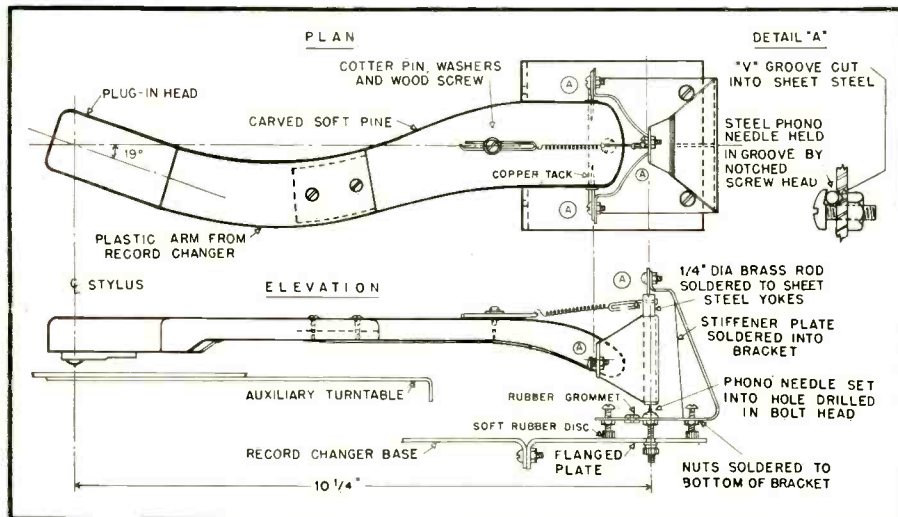
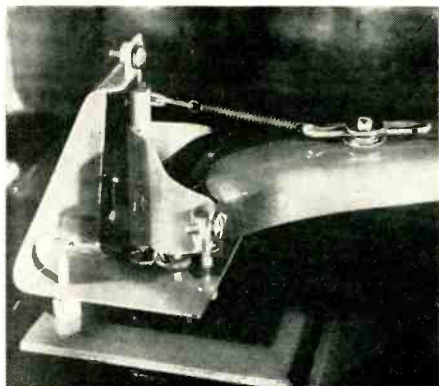

Fig. 4. Detail drawings show how the arm is made and pivoted.
Fig. 5. Photo shows details of the pivoting and the counterbalancing spring.
one or two electrostatic tweeters, as shown in Fig. 4 (B) and (C). Three of these tweeters are presently available: the Philco shown in Fig. 2; the "Kilosphere," made by Columbia Records; and the Kingdom-Lorenz SKL 100. The SKL 100 and the Korting are described in the literature.^{7,8} The author used a Western Electric 640A condenser microphone as a tweeter during the initial development of this amplifier-speaker system. This use of the 640A has also been described in the literature.⁹ The high frequencies from the 640A, while very clean, were too sharply beamed; the Philco unit, constructed as a section of a cylinder, diffuses the highs very nicely, especially when used in pairs with one unit on each side of the woofer.
In order to prevent tearing of the foil, its movement must be restricted, and this means that the electrostatic speaker should be fed only signals above 4 to 5 kc. The R-C coupling networks shown in Fig. 4 provide a high-pass filter, so that the tweeter is worked at normal listening levels only above 7500 cps. The exact component values shown in Fig. 4 are for the Philco units used with a special woofer; the experimenter will certainly want to vary these values for different makes of speakers, different types of enclosures, and different room acoustics. The capacitance of the Philco unit is .0024 μ f. The approximate composite and overall response curves are shown in Fig. 5.
A polarizing potential of around 250 volts is suitable for both the Philco and the Korting, and the connections shown in Fig. 4 will provide this value. The voltage may be increased to 450 volts or so for the Philco and Korting (but not the Kingdom-Lorenz), and in this
case terminal B in Fig. 4 should be connected to terminal D rather than B in Fig. 3.
The circuit symbol for an electrostatic tweeter is as shown in Fig. 4; the outline of a crescent indicates the rigid back plate, and the arc to the right of it indicates the foil radiating surface.
swing consist of steel phonograph needles of the one-play type fitting into holes punched by a similar needle, preferably one having less taper. This punching operation required much care as the needles are very brittle and tend to break off in the hole. For this reason, soft metal was chosen for the bearing seats; a brass volume control shaft soldered to the steel yoke provides bearing seats for the horizontal swing, while copper tacks driven into the wood arm provide bearing seats for the vertical swing. Three of the bearing needles fit into V grooves cut with a file, and each is held in place by the head of a machine bolt. The fourth bearing needle was set into a hole drilled in the head of the long bolt which also holds the hinge assembly and the three adjusting screws down against the mounting bracket. Figure 5 shows the result.
The use of a spring-type counter-balance (Figs. 4 and 7) was dictated by lack of space for a longer arm with overhang. Stylus pressure is readily adjusted by means of the spring tension which is varied by the sliding cotter pin and locking screw arrangement. A suitable spring was selected by trial from an assortment of radio dial assembly springs.